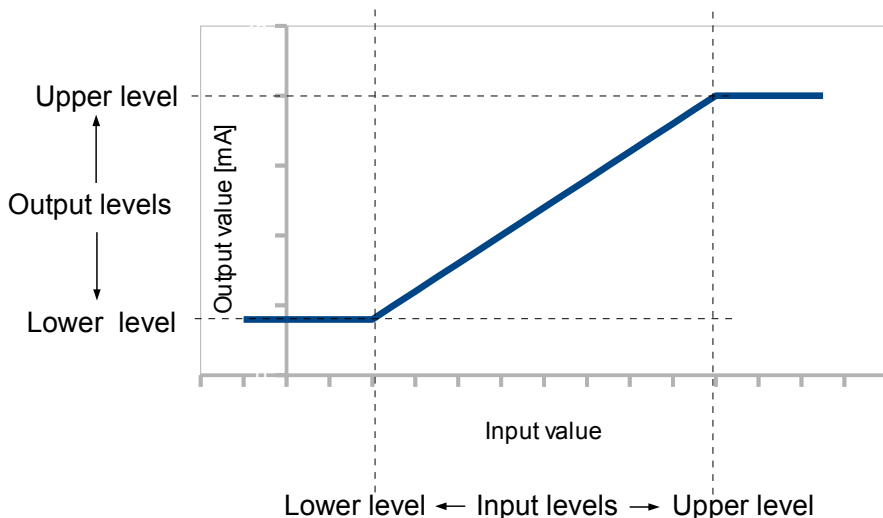

Fig. 7.75. Input-output characteristic of signal in PWM mode for parameters: **Lower level**=4, **Upper level**=14
**Lower level** and **Upper level** parameter describe the transfer equation (linear) - see Fig. 7.75. **Lower level** of the output defines the current which can be generated when the value of the input signal is equal to the **Lower level**. **Upper level** of the output defines the current which can be generated when the value of the input signal is equal to the **Upper level**.